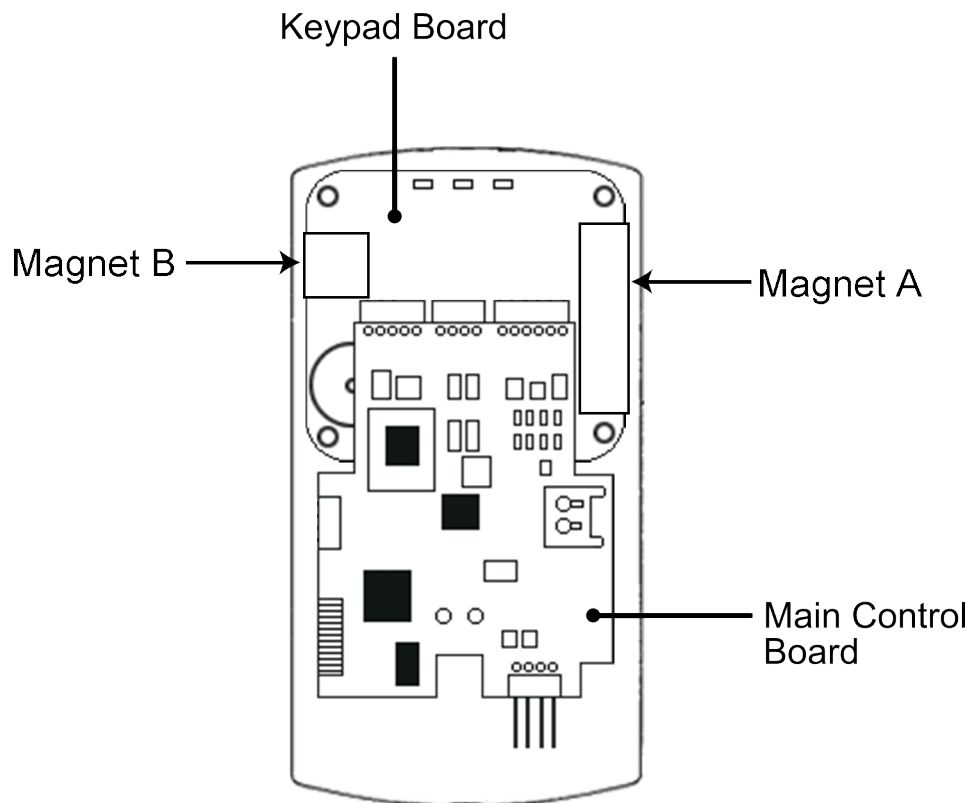

Figure 8: Tamper Switch Locations
2. **(When handling the main printed circuit board, to guard against possible static discharges, hold the board by its edges with one hand and then touch a grounded object before touching the prox.pad Plus IR unit.)** Remove the main printed circuit board by pressing the two spring tabs in the direction of the arrows as shown in Figure 8. Be careful with the wires.